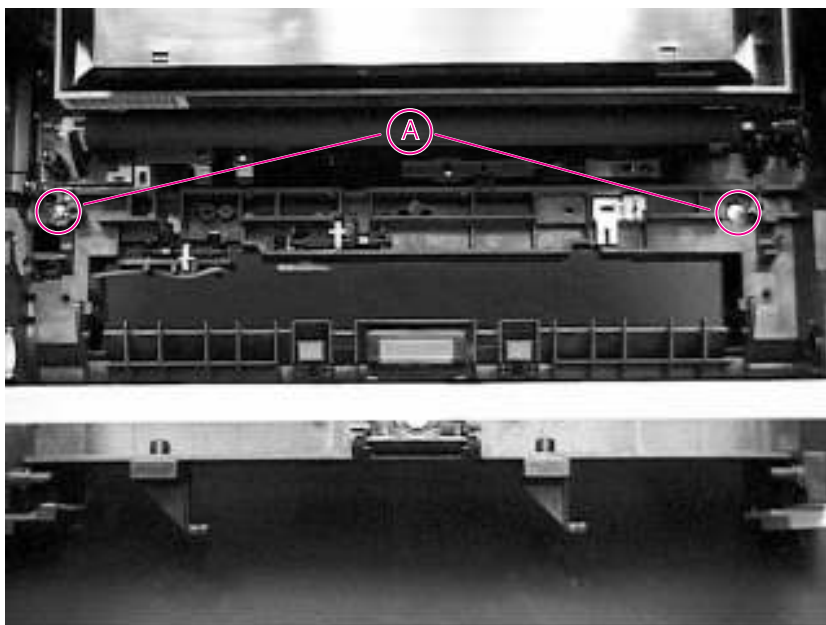

Figure 6-38 DC Controller Assembly (long screws)
- 5 Remove the two screws (A) (Figure 6-38) located at the back of the DC Controller Assembly, inside the chassis. These are long screws; their position requires the use of a magnetized screwdriver.